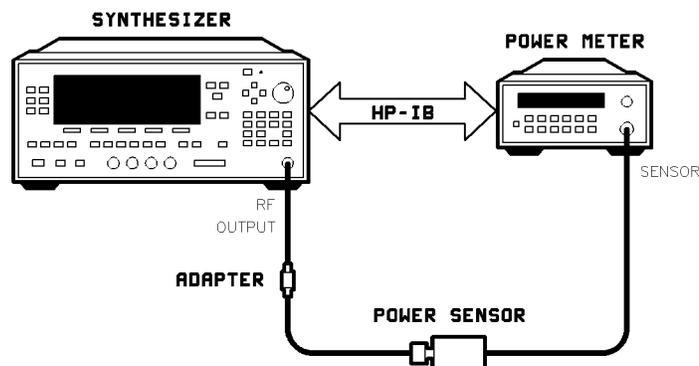

Figure 3-26. Power Flatness Adjustment Setup
1. Preset the instruments shown in Figure 3-26. Do *not* connect the power sensor to the synthesizer RF output yet. Let both instruments warm up for at least one hour.